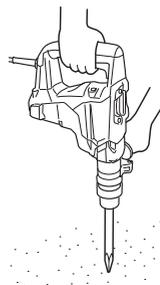

Fig. 10
- (1) Loosen the wing bolt, and insert the stopper into the mounting hole on the side handle.
- (2) Adjust the stopper position according to the depth of the hole and tighten the wing bolt securely.
6. Warming up (Fig. 10)